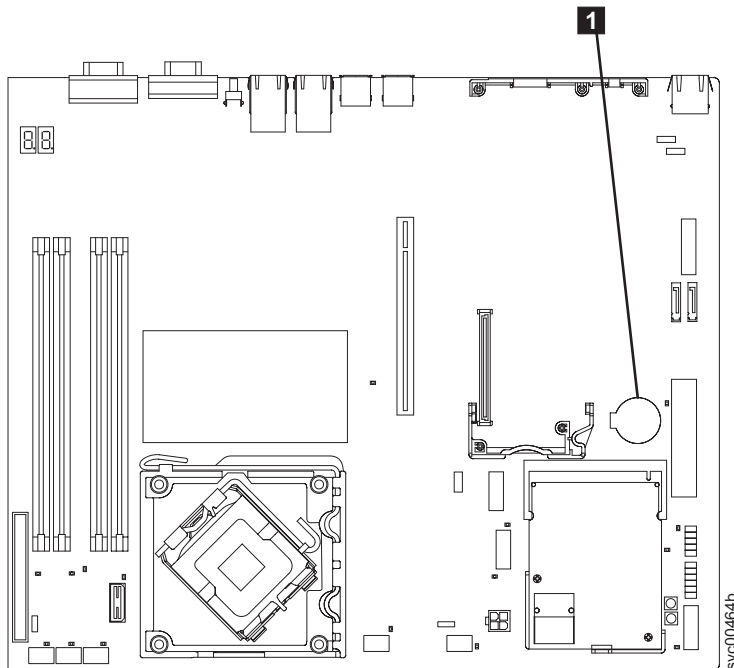

Figure 133. Locating the SAN Volume Controller 2145-8A4 CMOS battery
**1** in Figure 133 on page 145 shows the location of the battery.